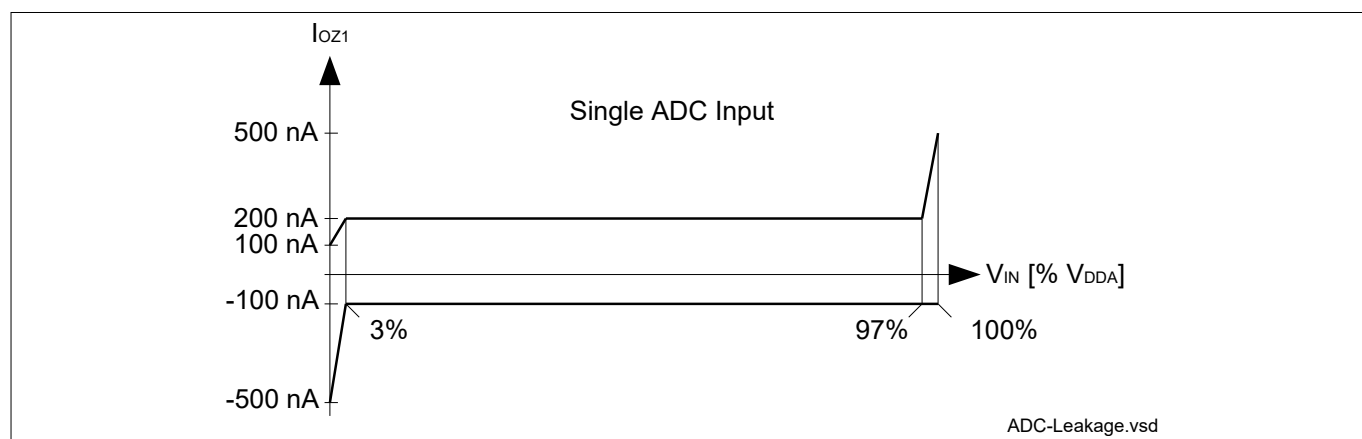

Figure 14 ADCx Analog Input Leakage Current
- 4) The leakage current definition is a continuous function, as shown in figure ADCx Analog Inputs Leakage. The numerical values defined determine the characteristic points of the given continuous linear approximation - they do not define step function (see Figure 14).